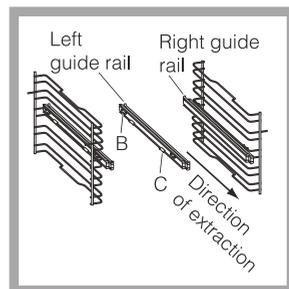

Figure 1.
- Choose which shelf to use with the telescopic runner. Paying attention to the direction in which the runner is to be extracted, position joint 'B' and joint 'C' on the frame (see Fig.1).